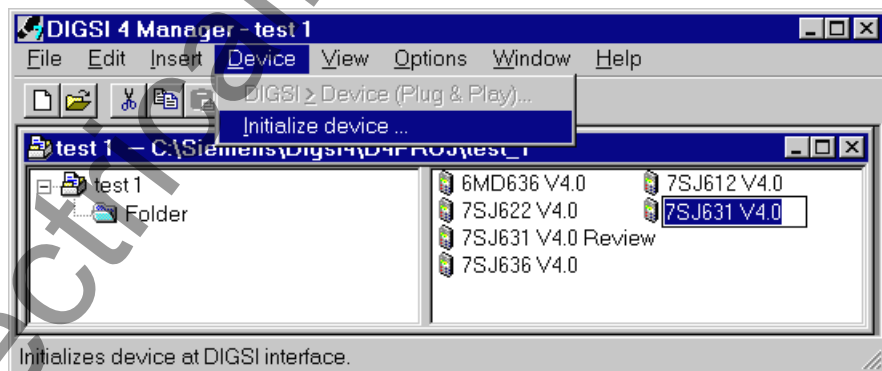

Figure 9-2 Initializing device via
- ☐ Select **Initialize device** in the menu **Device** (Figure 9-2).